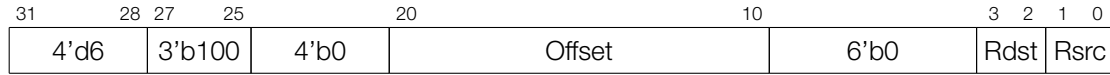

Figure 142: Instruction Type – ST
**Operand**    **Description** - see Figure 142